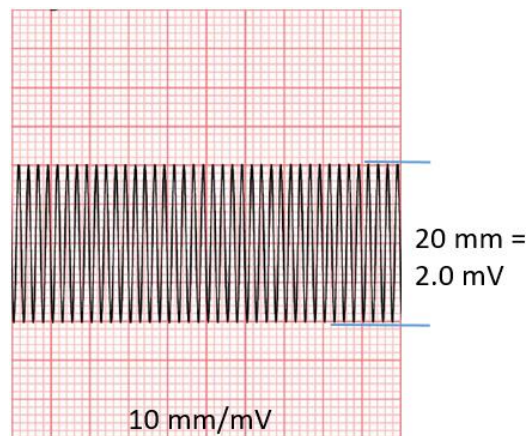

Figure 7, Input sine wave, 20 Hz, 2 mV, DUT ECG display lead I waveform.
- 9) The adjustment signal generator generates a sinusoidal signal 20 Hz, 2 mV. Verify that the lead I output signal on the ECG device is completely visible and the peak-to-valley amplitude is between 16 and 24 mm. Figure 7 shows the DUT ECG amplitude lead I when input the sine 20 Hz, 2 mV signal. Test result is 20 mm which is between 16 and 24 mm, passes the standard requirements.